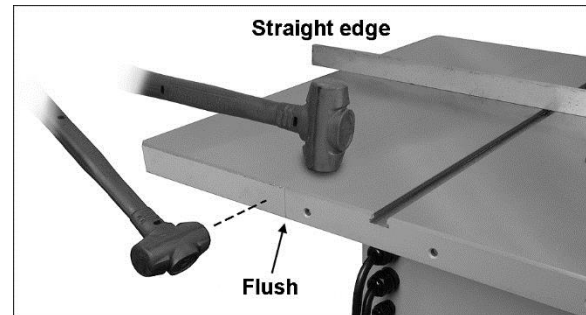

Figure 6-4: leveling extension wings, method 1
4. The front edge of extension wings must be flush with front edge of saw table. If needed, tap front edge of wing with a rubber mallet to make flush. See Figure 6-4.
Method 1 (Figure 6-4):
3. Lay straight edge across saw table and extension wing, extending it out past edge of wing as shown in Figure 6-4.